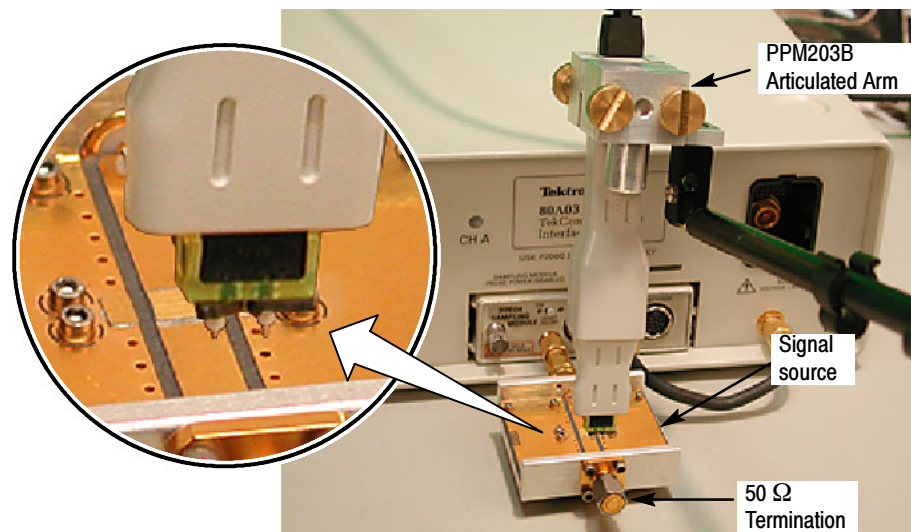

Figure 23: PPM203B Articulated Arm with the Handheld Adapter
3. Probe the calibration fixture using the Handheld Adapter (see Figure 23).
14. Connect the probe input to the probe calibration fixture as shown in Figure 23 on page 38. Check that the TDR function is still active.